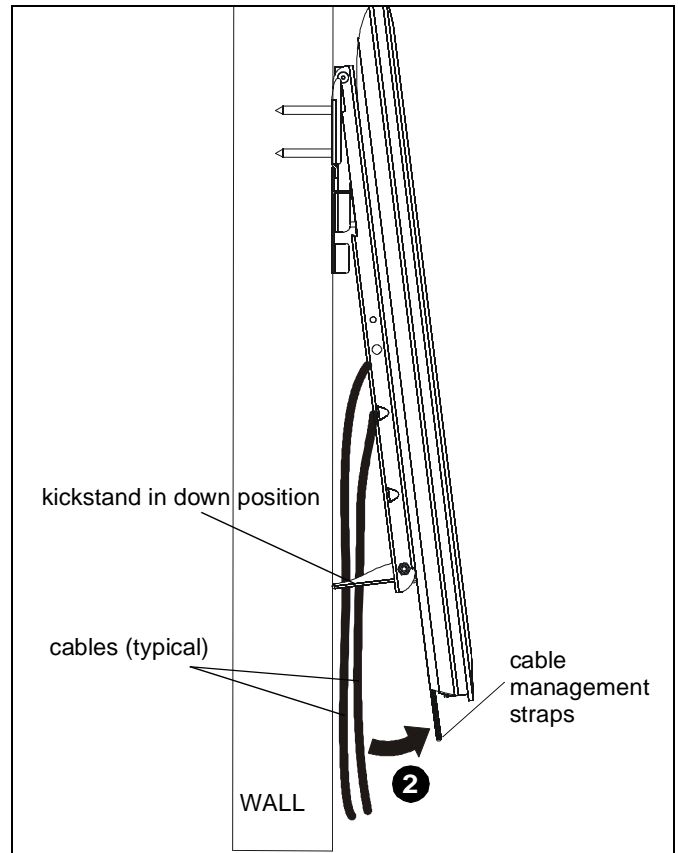

Figure 7
- Slowly pull bottom of display away from wall until kickstand fully reaches its down position. (See Figure 7)
- To disengage kickstand, slightly pull display away from wall and pull down on cable management straps to release kickstand. Slowly allow display to return to the wall. (See Figure 7)